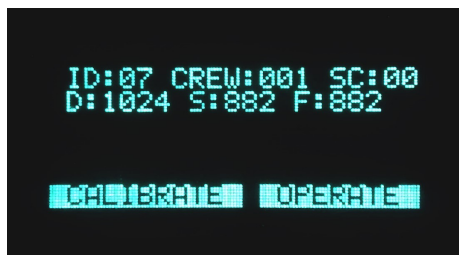

Fig. 3
- Press **Calibrate** soft-button (you have 5 seconds to make this decision, Fig. 3)